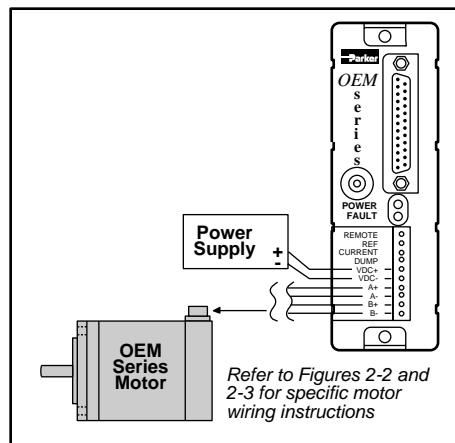

Figure 2-5. OEM650 Test Configuration
- Connect a 24VDC - 75VDC power supply to **VDC+** and **VDC-**. Refer to Figure 2-5 for a diagram of this connection and the complete OEM650 test configuration.